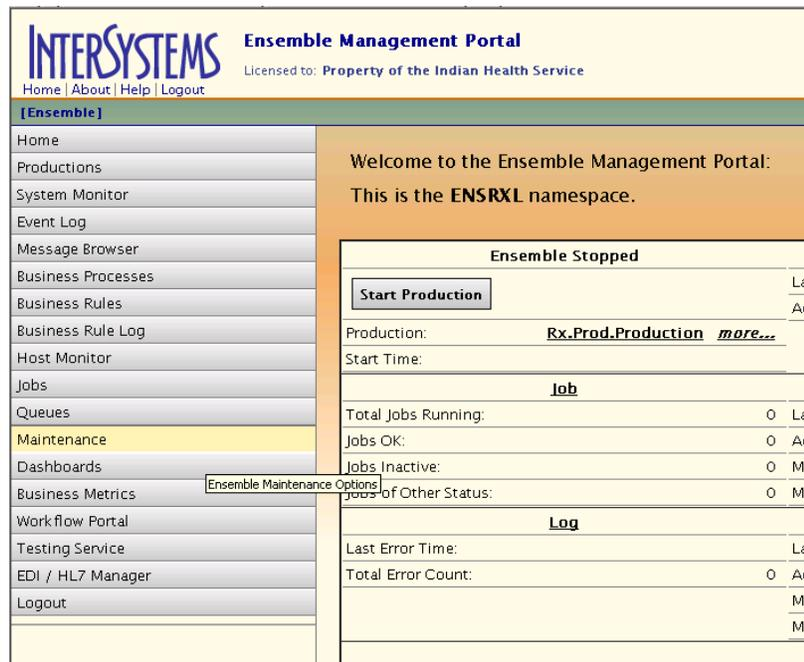

Figure 5-6: **Ensemble Management Portal** window
1. Open the **Ensemble Management Portal** window as shown in Figure 5-6: